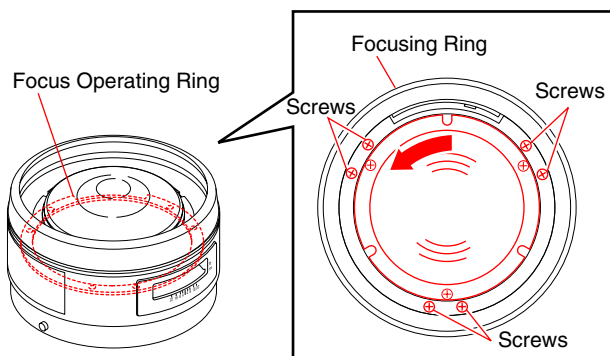

Fig.4-4-6
Note: If in-focus point cannot be obtained even through the focusing ring is fully turned, perform the following steps (1) to (4) and shift the position of the focusing ring. (Refer to Fig.4-4-6.)
- (1) Set the focusing ring to the infinity stop position, and hold the distance tube block.
- (2) Loosen the six screws fixing the focus operating ring.
- (3) Turn the helicoid in the direction of the arrow (screw in direction), and tighten the six screws loosened in step (2) temporarily.
- (4) Perform the step 4) again.